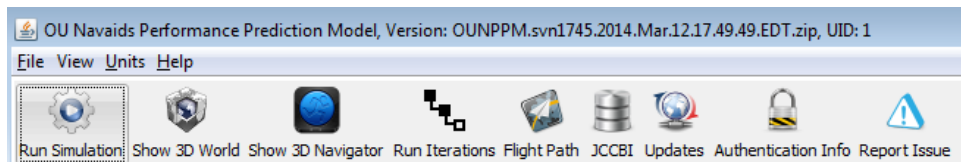

Figure 122: Upon restarting OUNPPM, the new Version is displayed.
5. After restarting OUNPPM, notice the Version has changed in the Title Bar of the OUNPPM Window as shown in Fig.122.